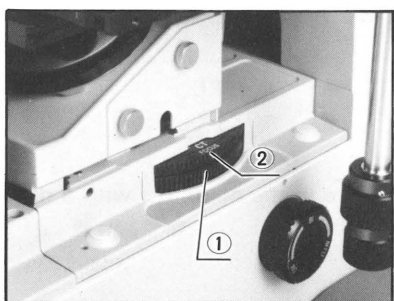

Fig. 8
- 2) Rotate the magnification changer ① to the CT position. (Fig. 8)
- 3) Focus on the phase annulus ③ with the focus ring ②. (Figs. 8, 9)